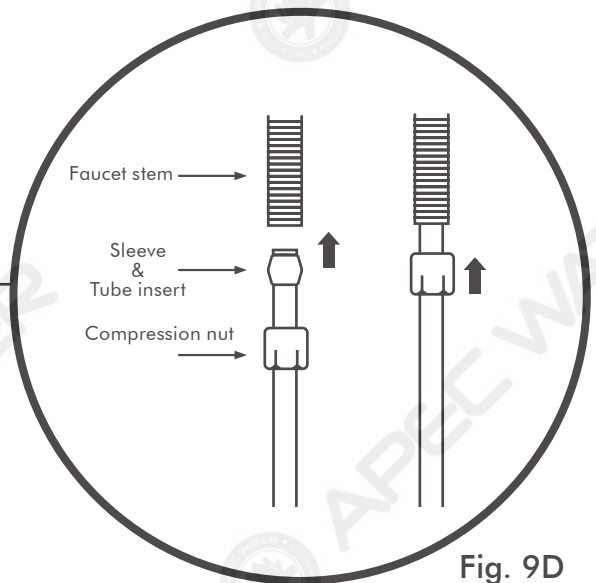

Fig. 9D
3. Make sure the tubing is **inserted** inside the faucet stem at least 1/4" deep while screwing the compression nut **Fig. 9D (Page 12)**.